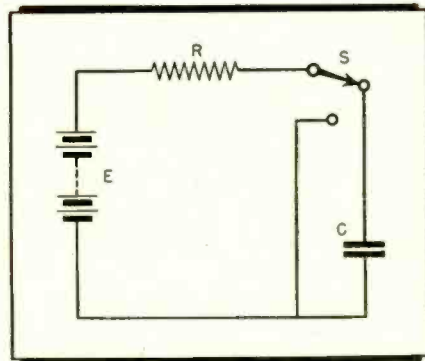

Figure 3
a. The simple time base is illustrated in *Fig. 3*. The voltage source  $E$  charges the condenser through resistance  $R$  in accordance with the formula  $V_c = E(1 - e^{-t/CR})$ , where  $V_c$  is the voltage across the condenser at any